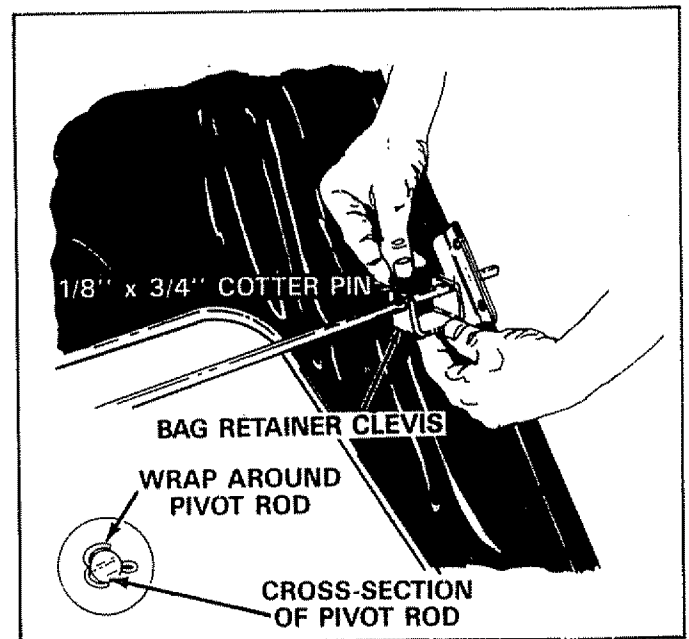

FIGURE 21
13. Secure the bag retainer clevis on each side of bag with 1/8" x 3/4" cotter pins. See figure 21. Wrap cotter pin around pivot rod as shown in figure 21